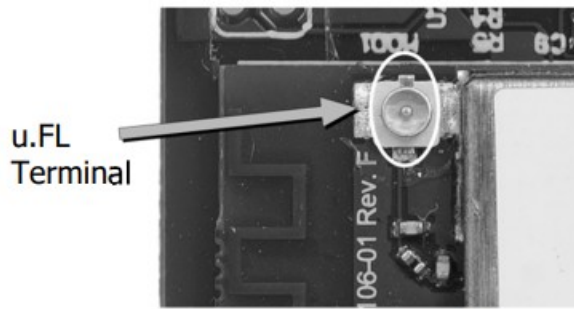

**Figure 1 - Proper External Antenna Installation**
**NOTE:** When installing the DIM10-087-06 into an enclosure, consideration of the internal or external antenna position and any interference is required to provide the best wireless signal strength. Prior to permanently mounting it, make sure the antenna points directly upward or downward and is free of any metal objects within 2 inches of the antenna (Figure 1).